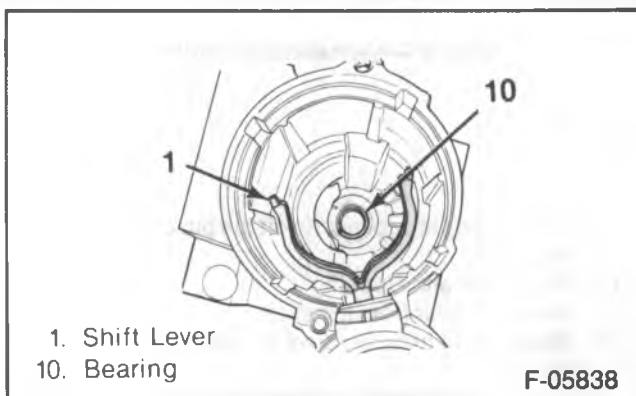

Figure 6—Drive End Bearing
12. Bearing (83) from the drive housing assembly (figure 6).